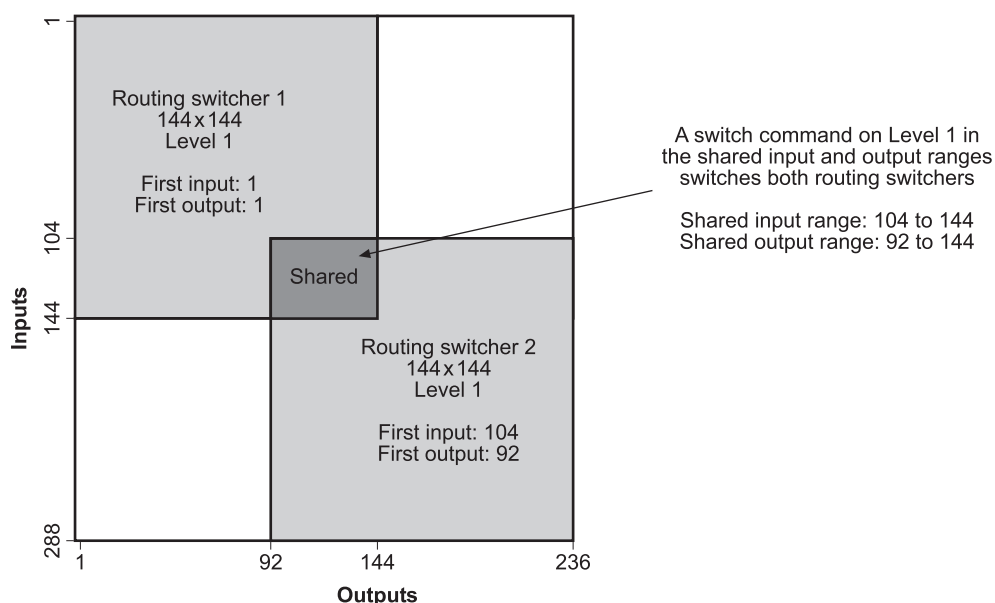

Figure 5.3 Offsetting two routing switchers for overlapping inputs and outputs
- with overlapping inputs and outputs (see **Figure 5.3**)